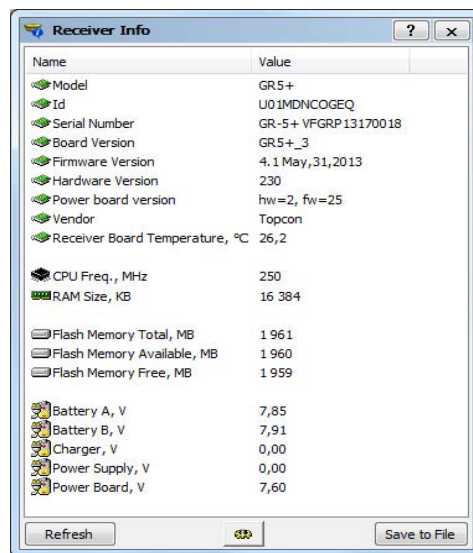

Figure 18: TRU – Receiver Info
6. In the TRU main window, click the **Information** icon. The **Receiver Info** window (Figure 18) appears.